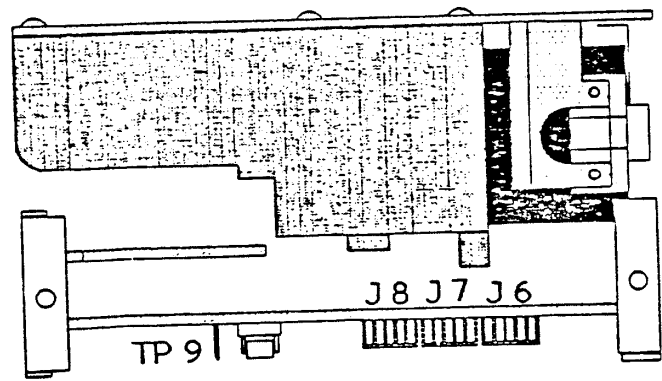

Figure 2 - HDA End View
2. Remove the System ROM from the piggy back on the Z8 then install the Format Firmware. Locate the connectors J6, J7 and J8 (shown in Figure 2) that connect the HDA to the analog board. They are a constant source of problems. Move the wires around and make sure that they are securely fastened to the connectors. Connect an external LED to P4 (shown in Figure 1).